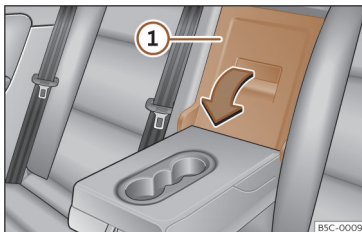

Fig. 121 In the rear seat backrest: opening the trapdoor.
- Pull the release lever in the direction of the arrow and push the tailboard cover >>> **Fig. 121**  down and forwards.